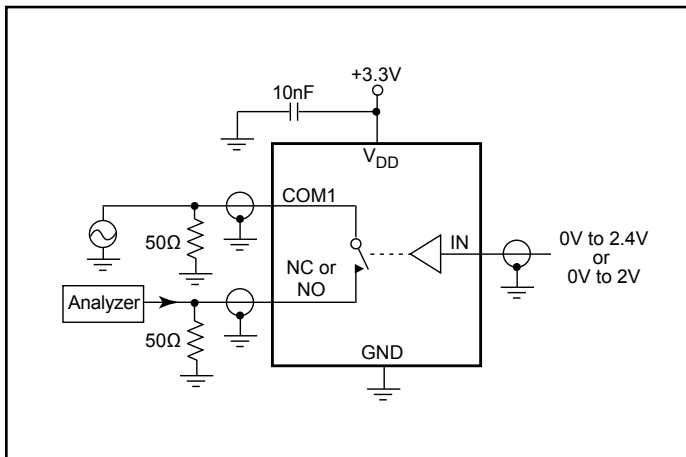

Figure 3. Off Isolation
4. Off Isolation = 20log10 [ VCOM / (VNO or VNC) ]. See Figure 3.